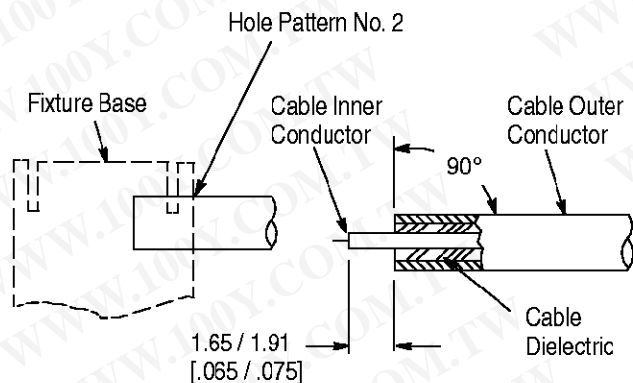

Figure 3
**3.1. Preparing the Cable** (Figure 3)
5. Complete trimming of cable inner conductor to dimension shown in Figure 3.